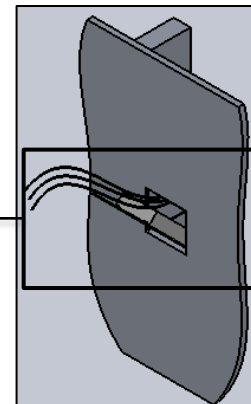

FIG. 13- DRIVER PLATE ASSEMBLY
- Slide DRIVER PLATE into the box with the DRIVER facing rearward as shown in FIG. 13. As you slide the plate in, make sure you pull the BUILDING SUPPLY connections through the large hole in the DRIVER PLATE and other wires will already be through center hole.